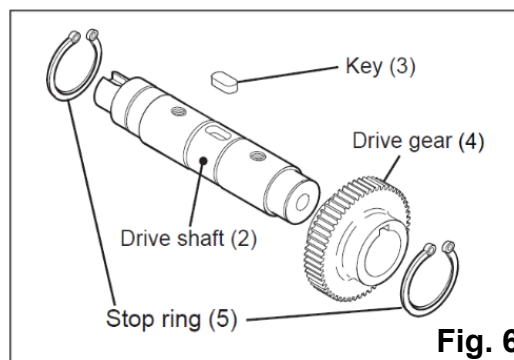
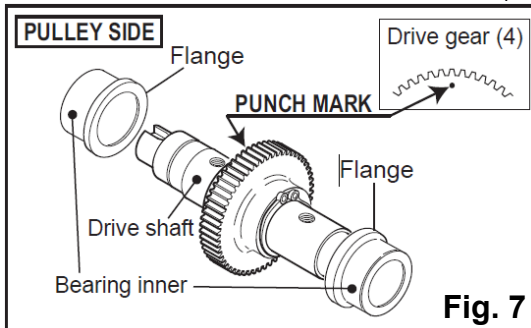

Fig. 6
Fig. 7
- 7) Remove oil seal (8).
- 8) Remove the drive shaft (2) assembly from inside of the vibrator case.
- 9) Remove inner bearing race from both ends of drive shaft (2) with pulley puller.
- 10) Remove the stop rings (5) from drive shaft (2), then remove the drive gear (4), (it may need to be pressed off, do not hit with a hammer), (Fig. 6).
- 11) Remove the key (3).
- 2) Assemble the key (3) to new drive shaft (2), then press fit drive gear (4). Install new stop rings (5), (Fig. 6).
- Apply grease to the drive gear (4) before installation.
- The punch mark of drive gear (4) should face the pulley side of drive shaft (2), (Fig. 7).
- 3) Press fit the inner bearing race at both ends of drive shaft (2).
- Both inner bearing race flanges should go towards eccentric rotator side, (Fig. 7).